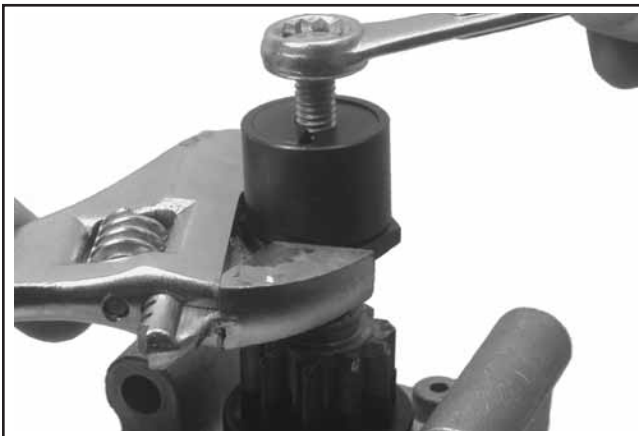

Figure 7-32. Holding Tool and Turning Center Screw (Clockwise) to Remove Retaining Ring.
5. Thread the center screw into the removal tool until you feel resistance. Use a wrench (1-1/8" or adjustable) to hold the base of the removal tool. Use another wrench or socket (1/2" or 13 mm) to turn the center screw clockwise (see Figure 7-32). The resistance against the center screw will tell you when the retaining ring has popped out of the groove in the armature shaft.